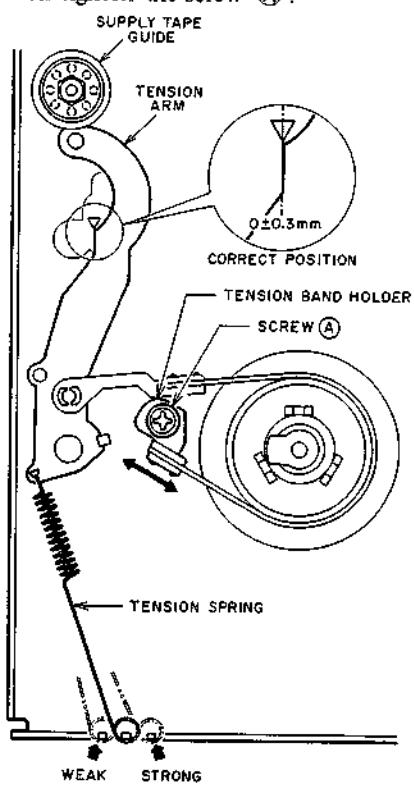

Fig. 5-1
- 3) In the Play mode, loosen the screw ④ and set the Tension Arm position to the correct position as shown in Fig. 5-1 by the Tension Band Holder position, then tighten the screw ④.